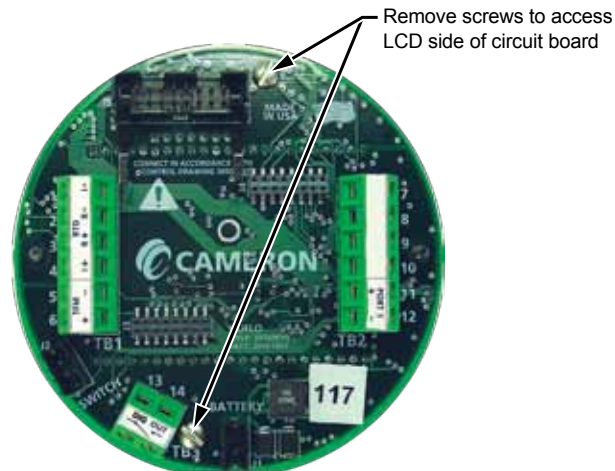

Figure 6.7—Disassembly of main board/keypad assembly
12. Remove the two #4-40 × 5/16” screws fastening the main board to the keypad (Figure 6.7, page 76).